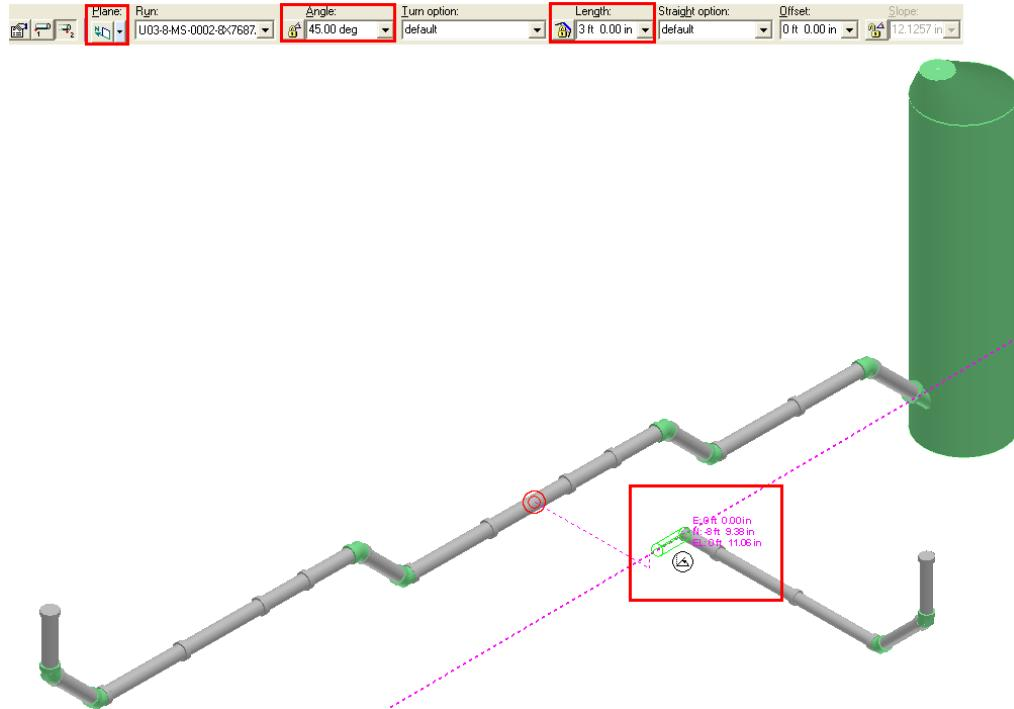

Figure 27: Routing the Pipe
47. Now, route a 3 ft pipe, as shown in Figure 27, by using the following specifications on the **Route Pipe** ribbon: